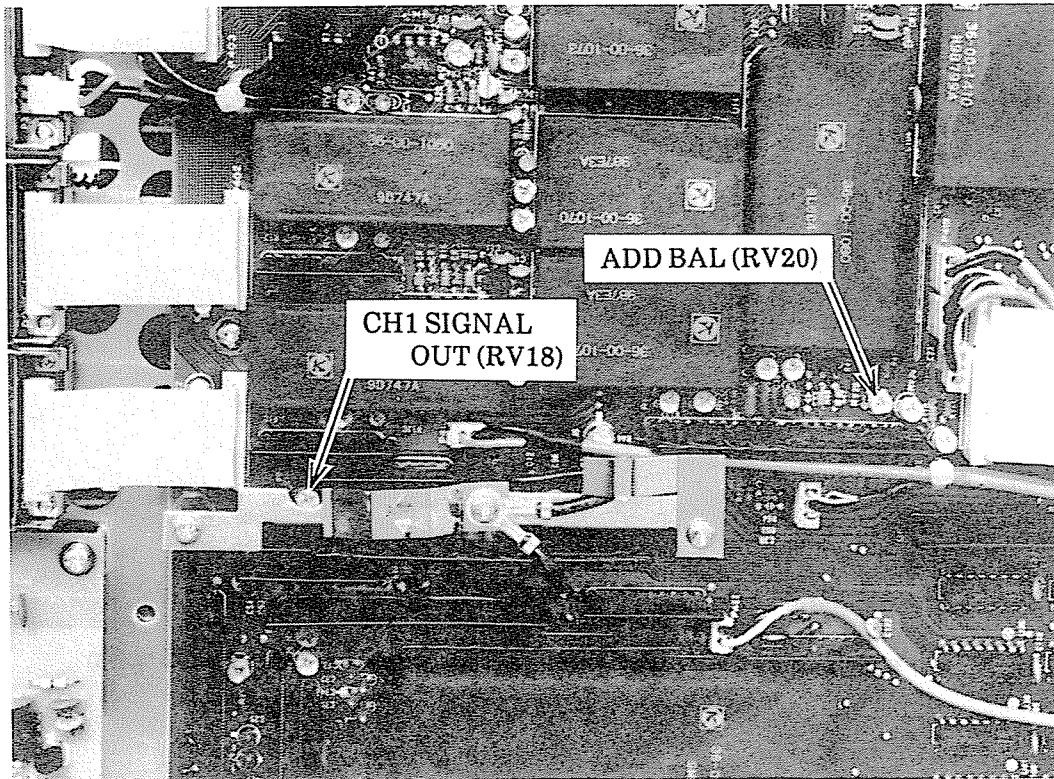

Fig. 4-18 Adjustment position of ADD BAL (RV20), and CH1 SIGNAL OUT (RV18)
- (1) Perform initial setting of this oscilloscope in accordance with Table 4-3.
- (2) Press the "CH2" "VERT MODE" switch to put the oscilloscope into the dual trace mode.
- (3) Accurately align the traces of CH1 and CH2 with the center of the oscilloscope.
- (4) Set "VERT MODE" to "ADD", and confirm that the position of the ADD trace is within  $\pm 0.5$  divisions with respect to CH1 and CH2. If it is not, adjust ADD BAL (RV20) on board A4 shown in Fig. 4-18.
- (1) Perform initial setting in accordance with Table 4-3.
- (2) Set the input coupling of CH1 to "GND".
- (3) Connect the CH1 SIGNAL OUTPUT to the CH2 input terminal, using coaxial cable. (Do not terminate it in 50ohms.)
- (4) Press the "CH2" "VERT MODE" switch and move the CH2 trace to the center of the CRT screen. (It is recommended that CH1 be turned OFF.)
- (5) Switch the input coupling of CH2 through "DC"  $\Rightarrow$  "GND"  $\Rightarrow$  "DC", and confirm that the trace on the CRT screen does not move more than 1 DIV. If it does, adjust CH1 SIGNAL OUT (RV18) on board A4 shown in Fig. 4-18.